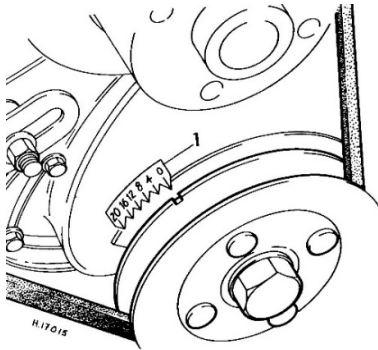

Fig 1
- B. Point timing gun and pull trigger at the timing marks normally located on the front of the engine. See Fig 1.
When the crank pulley mark is aligned with the relevant timing mark stop engine and tighten distributor clamp. restart engine and check. (Fig 1 shows Crank pulley mark aligned with TDC Mark)